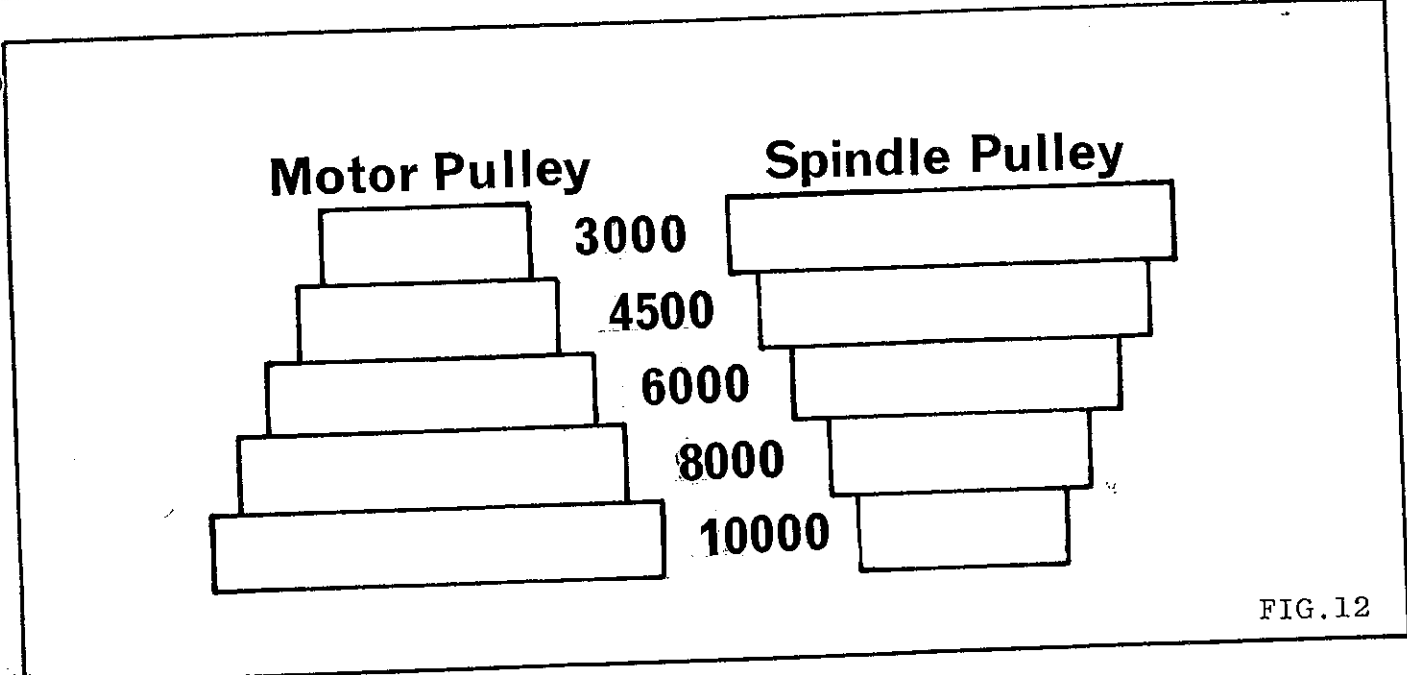

FIG. 12
- 5) Position drive belt on pulley for required spindle speed. See FIG.12, for pulley layout and speeds.